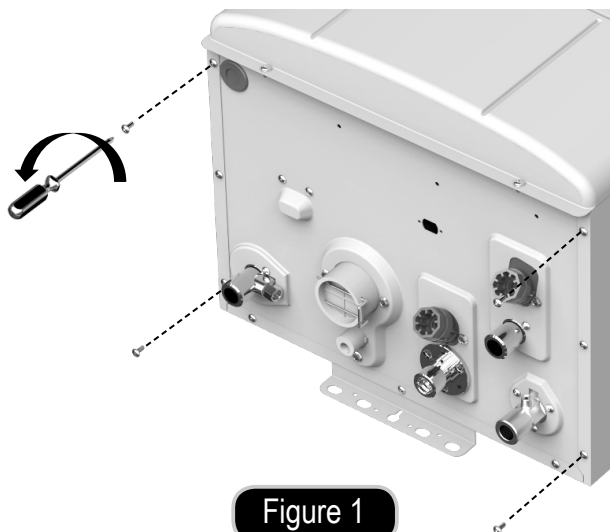

Figure 1
- 1) Remove the mounting 4 screws (A) from the bottom and sides of the appliance. Refer to Figure 1.